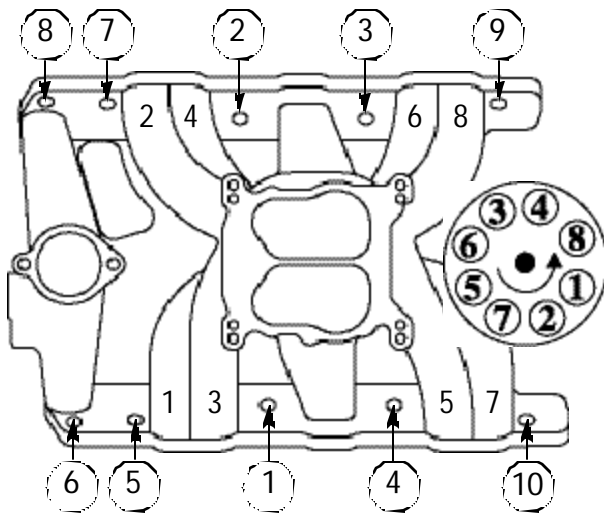

Figure 1 - 326-455 Pontiac Torque Sequence
- 5) Torque all of the manifold bolts in two steps by the sequence shown in Figure 1 to 25 ft/lbs.